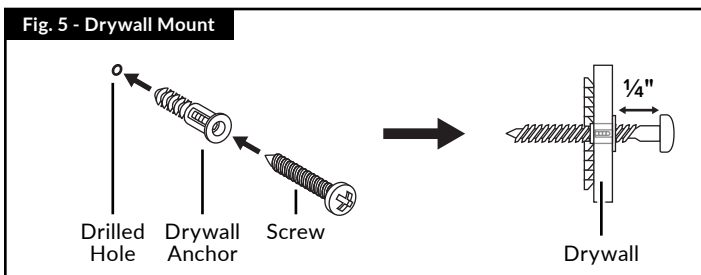

Fig. 5 - Drywall Mount
**NOTE:** If mounting on drywall, use drywall anchors as shown (Fig. 5).